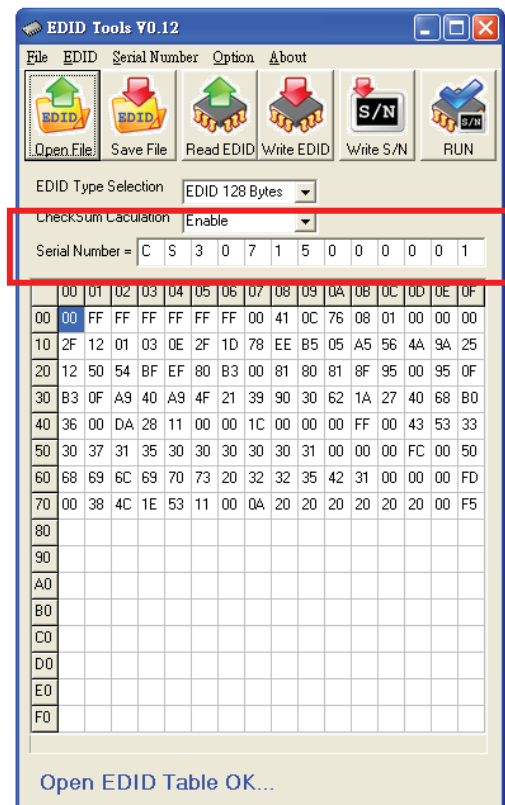

Fig.7
Step 4 : update Serial number and press enter to correct S/N number shown as Fig.7 .